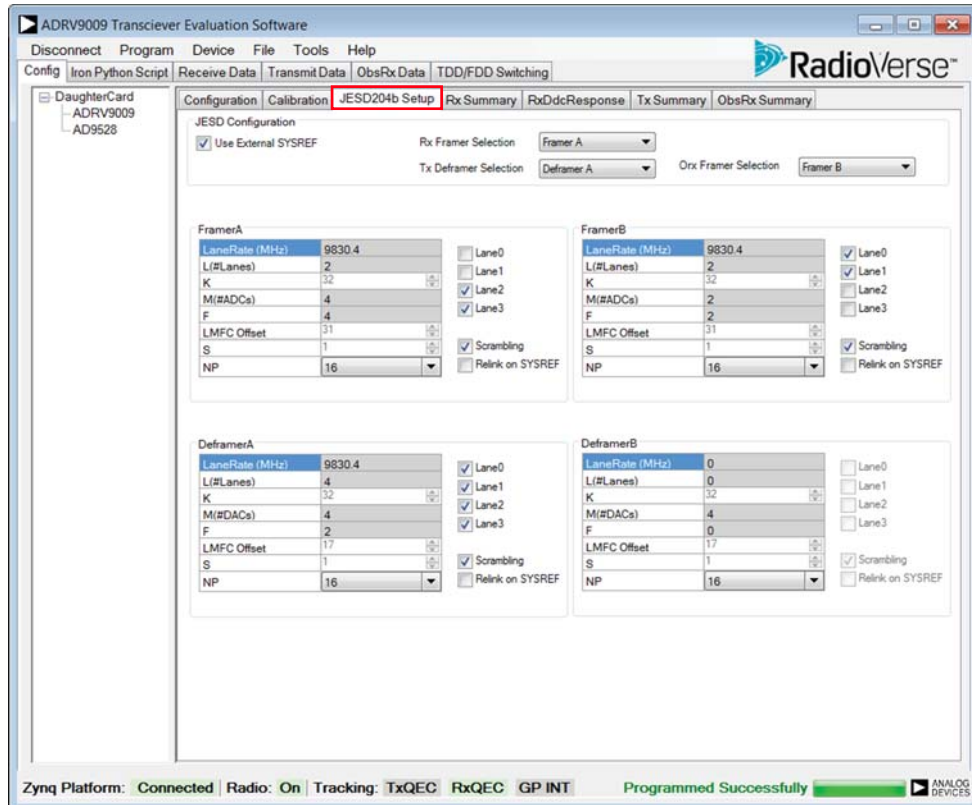

Figure 40. Typical JESD204B Setup for TDD Operation in the TES
2. Configure the JESD204B section of the TES as follows (Figure 40 shows a typical setup for JESD204B in the TES):